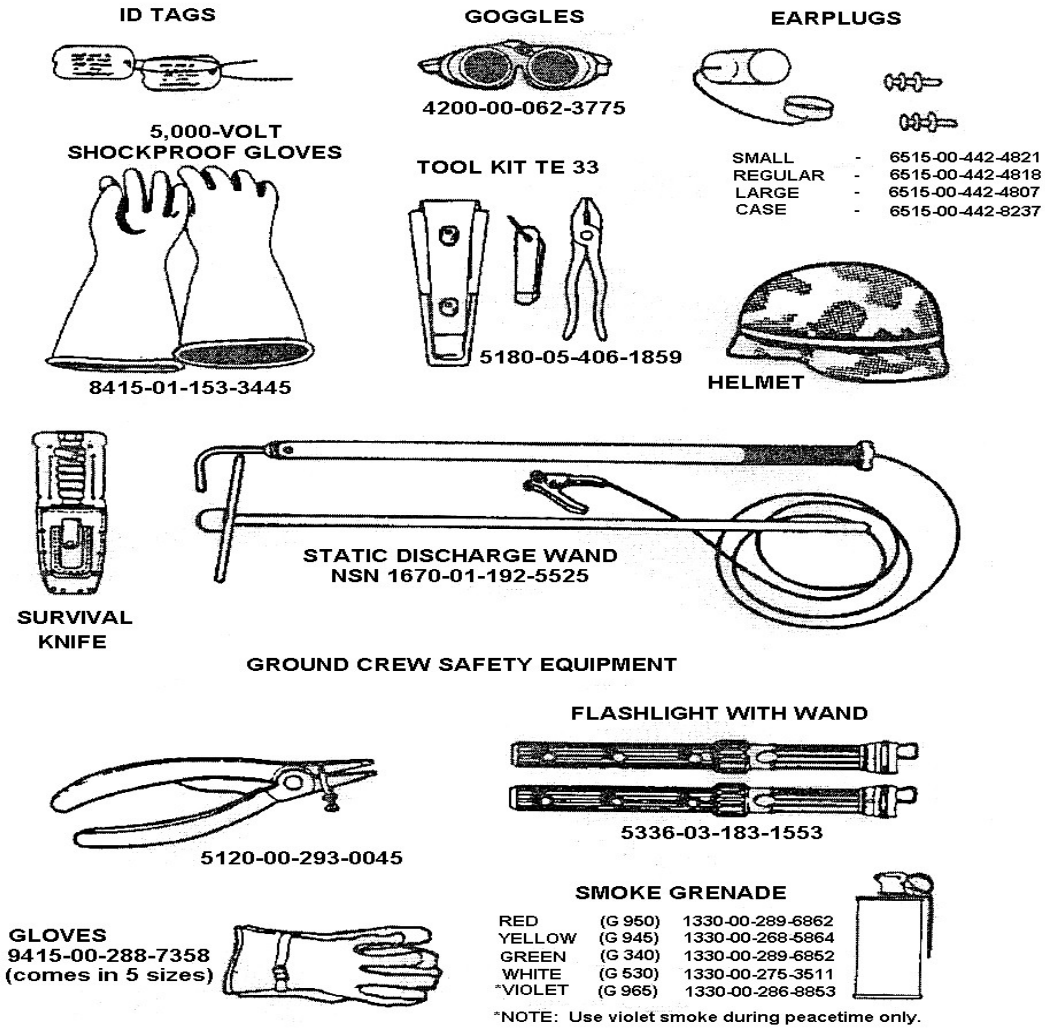

Figure 3-201
1. Ensure personnel are wearing safety equipment: helmet, dust goggles, earplugs, and gloves (see Figure 3-201).